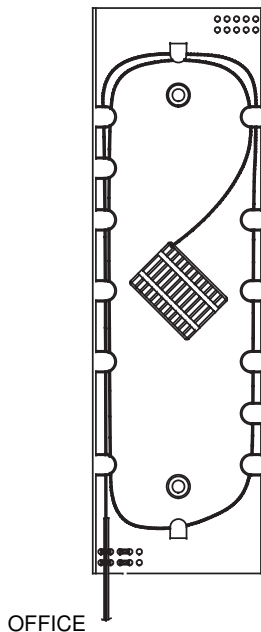

FIGURE 23 - ROUTING OFFICE SIDE FIBERS ON SPLICE TRAY (NARROW TRAY SHOWN)
- 12.08** Route the fibers from the office side 1-3/4 times around the splice tray and into the right side of the splice blocks as shown in Figure 23.